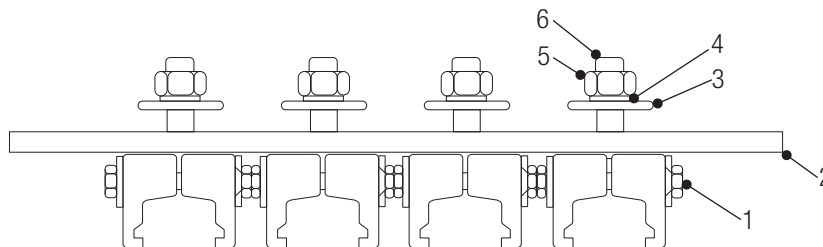

Figure: 5-6
- For ease of access to clamping set screws, item 1, install anchor assemblies from back to front or left to right as shown above in (Figure 5-6).